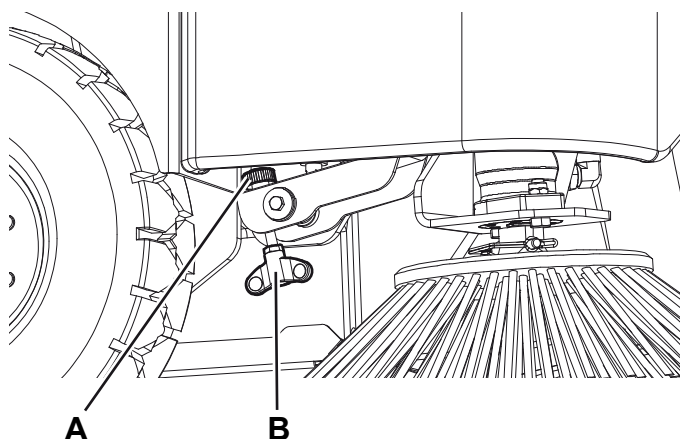

Figure 5
6. To adjust, loosen the knob (A, Fig. 5) and operate on the side broom adjuster (B) by considering the following: